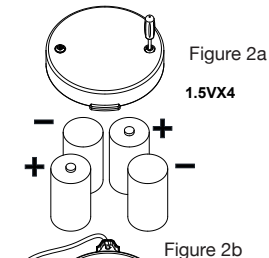

Figure 2a
4. Unscrew the battery retaining screws and lift out batteries paying attention to battery polarity (Figure 2a).
6. Re-Install the battery retaining screws (Figure 2a).